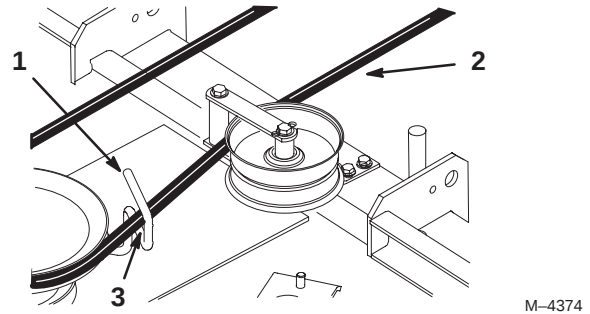

Figure 67
11. Rotate the belt guide, on rear of the mower, so it is 1/8-1/4 in. (3-7 mm) away from the vertical side of the PTO belt (Fig. 67).